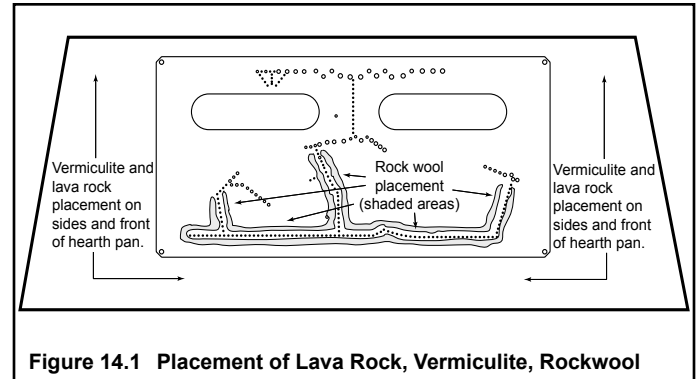

Figure 14.1 Placement of Lava Rock, Vermiculite, Rockwool
- See Figures 14.1 - 14.3.
- See Figures 14.1 and 14.4.